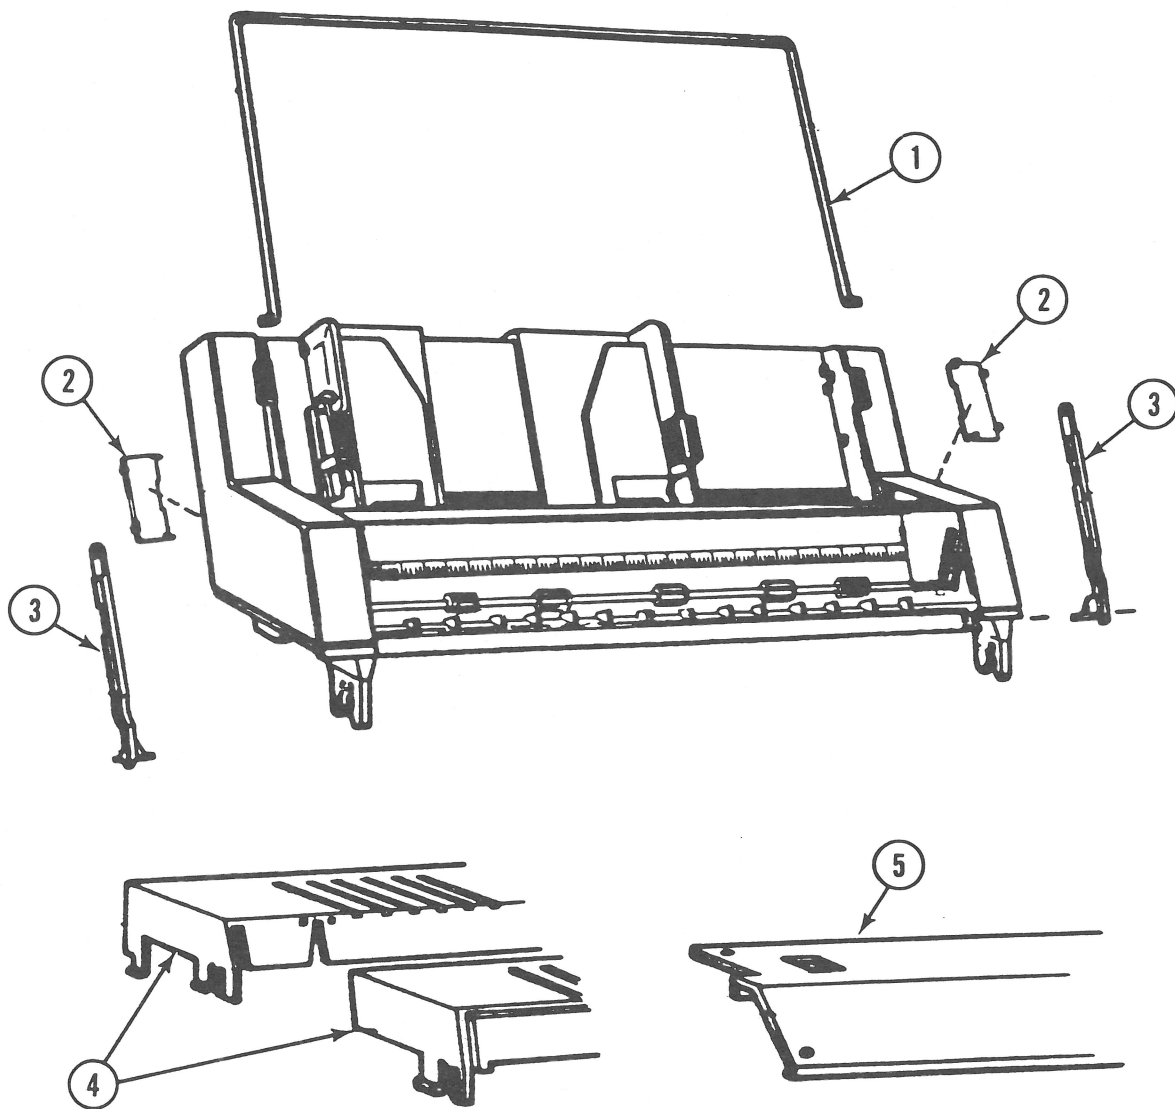

FIGURE 1
- SF-IPL.3 Cut SheetFeeder (Figure 1)
❑ CUT SHEETFEEDER (Figure 1)